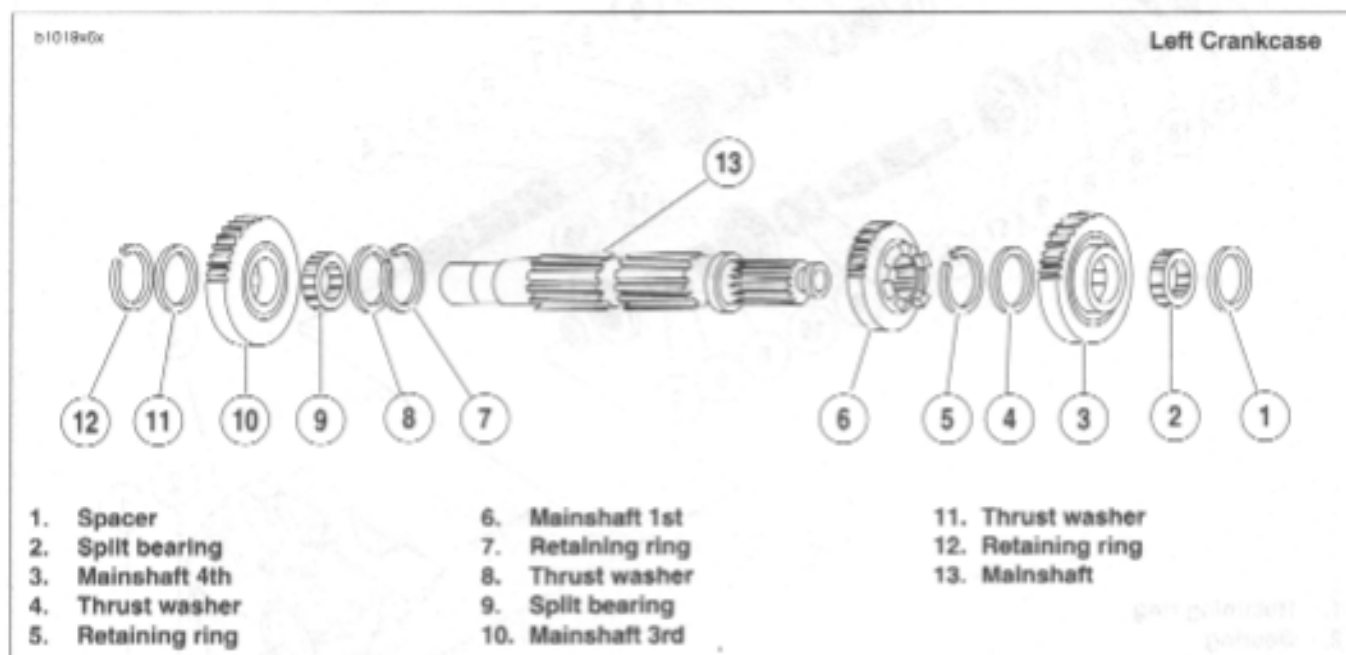

Figure 6-58. Transmission Mainshaft Assembly Once Removed from Left Crankcase/Disassembly
- See Figure 6-58. Remove spacer (1), mainshaft 4th gear (3), split bearing (2) and thrust washer (4) from the threaded end of the mainshaft.
- On the mainshaft, between mainshaft 1st gear (6) and mainshaft 3rd gear (10), use RETAINING RING PLIERS (Part No. J-5586) to expand retaining ring (7) and move next to mainshaft 1st gear along with thrust washer (8).
- Move mainshaft 3rd gear (10) as far as possible toward mainshaft 1st gear (6).
- Expand retaining ring (12) at opposite side of mainshaft 3rd gear (10) and slide off end of mainshaft with thrust washer (11).
- Remove mainshaft 3rd gear (10) and its split bearing (9).
- Slide thrust washer (8) off end of mainshaft.
- Expand retaining ring (7), which is next to mainshaft 1st gear (6), and slide off end of shaft.
- Remove mainshaft 1st gear (6).
- Expand retaining ring (5) and remove.